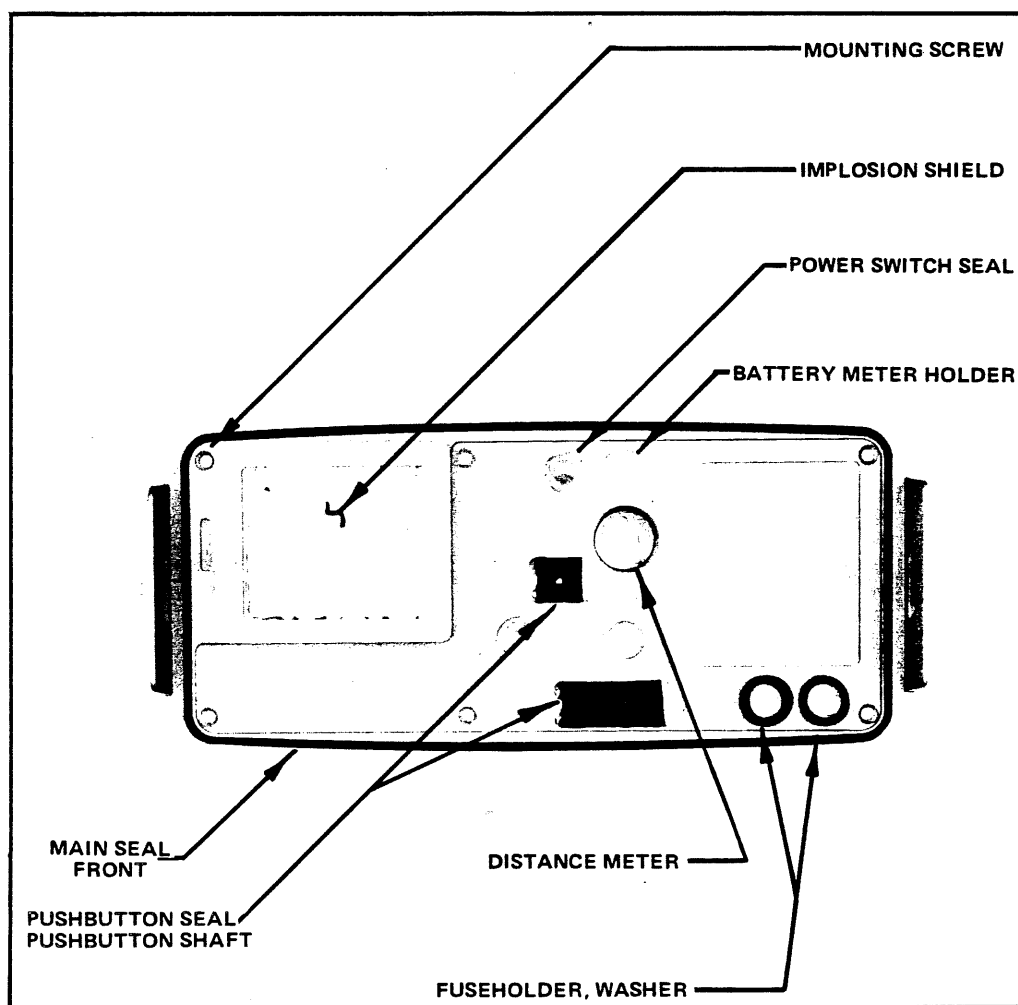

Figure 1. Subpanel, identification of parts for steps 1 through 7.
STEP 1. Preparation of the Subpanel for further assembly (see Figure 1)
- (1) 1502 TPN 426-1187-01, MPL Item 3-26.
- (2) 1503 TPN 426-1187-02, MPL Item 3-26.
STEP 6. Installation of rubber seals in two grooves located on the outer (see Figures 1 and 2) edges of the front and rear sides of the Subpanel.
- (1) 1502 TPN 348-0477-00, MPL Item 2-55.
- (2) 1503 TPN 348-0477-00, MPL Item 2-58.
STEP 7. Install the implosion shield and its retainer on the Subpanel (see Figures 1 and 3)
- (1) 1502 TPN 337-2206-00, MPL Item 2-94.
- (2) 1503 TPN 337-2206-00, MPL Item 2-91.